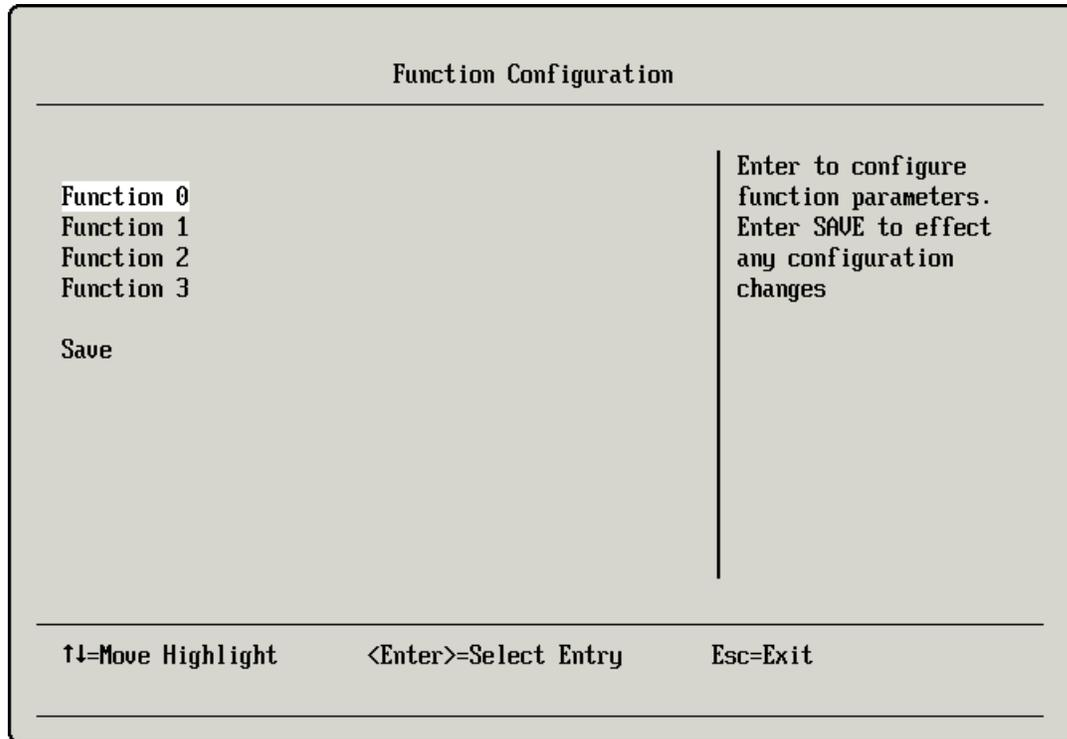

Figure 10-6 Function Configuration panel
7. In the Function Configuration panel (Figure 10-6), configure each of the four vNIC functions. To begin, select **Function 0** and press Enter.